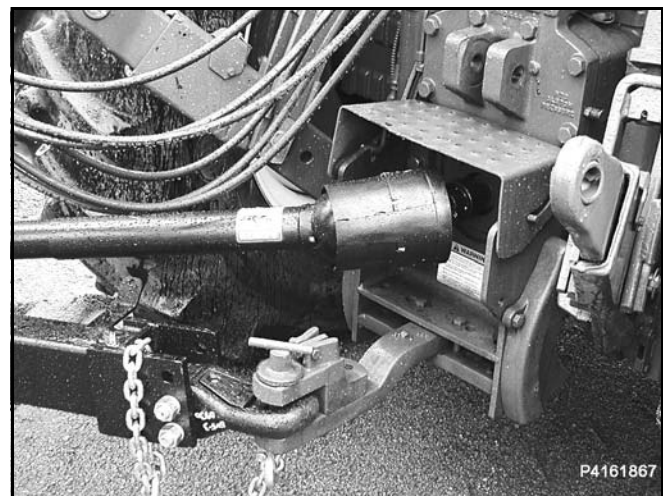

Figure 9. Locking Collar
2. Attach the driveline to the tractor by retracting the locking collar. Slide the yoke over the shaft and push on the yoke until the lock collar clicks into position. Make sure the yoke is locked into position. See Figure 9.